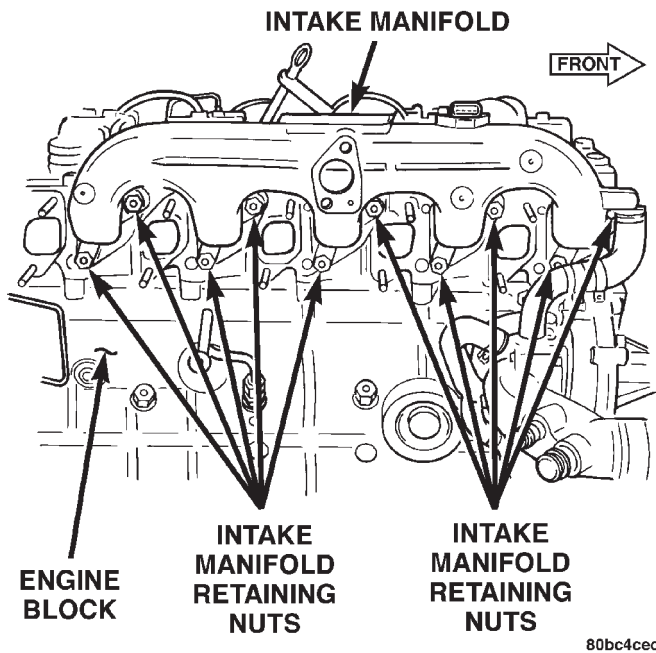

Fig. 40 Intake Manifold Retaining Nuts
(29) Remove the (10) intake manifold retaining bolts and remove the intake manifold from the vehicle (Fig. 40).
(30) Remove the intake/exhaust manifold gasket from the manifolds mounting studs.
(1) Position the new intake/exhaust manifold gasket on the manifolds mounting studs.
(2) Install the intake manifold and install the (10) retaining nuts (Fig. 40). Torque the nuts to 32 N·m (23 ft. lbs.).
(3) Position the new intake air duct gasket.
(4) Install the intake air duct on the engine. Torque the bolts to 32 N·m (23 ft. lbs.).